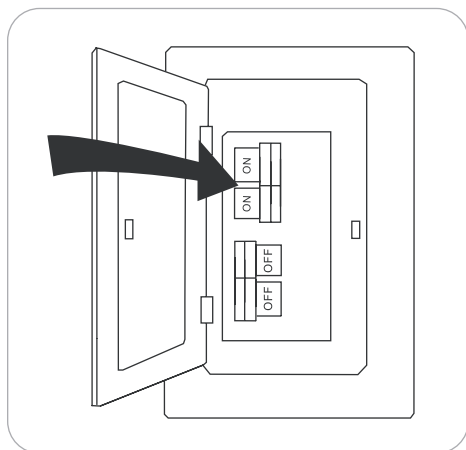

Figure 6.10
10. Turn on power to fan at breaker box and the wall switch (Figure 6.10). Assembly is complete.